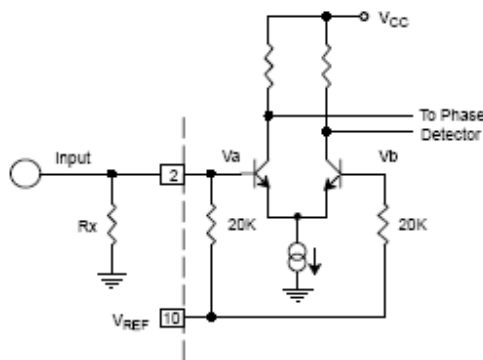

Figure 4. Desensitizing Input Stage
- f) The input to the XR-2211 may sometimes be too sensitive to noise conditions on the input line. Figure 4 illustrates a method of de-sensitizing the XR-2211 from such noisy line conditions by the use of a resistor, R_x , connected from pin 2 to ground. The value of R_x is chosen by the equation and the desired minimum signal threshold level.